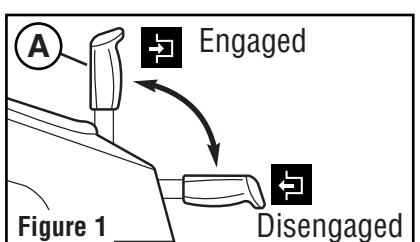

Figure 1
- Disengage the Parking Brake (A, Figure 1) by pushing the lever forward and down.